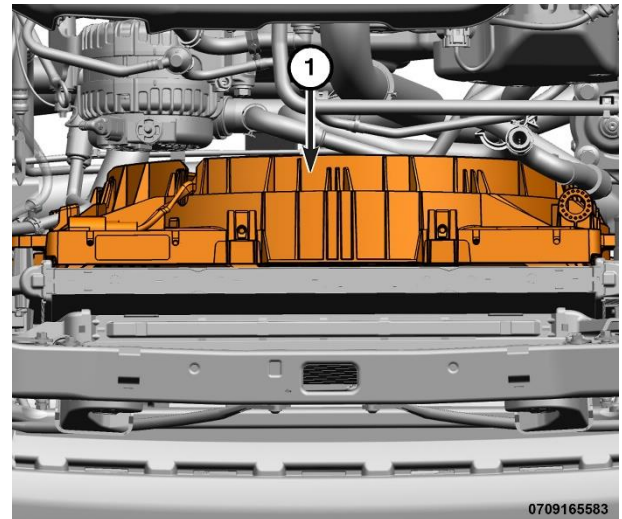

Figure 97 – Cooling Fan
11. Remove the cooling fan (1) by pulling upwards and away from the radiator (Figure 97).